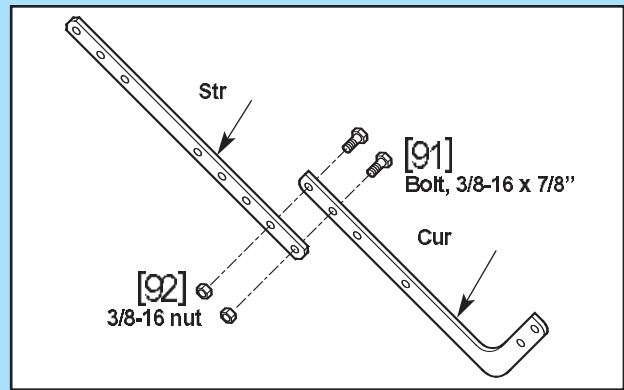

Fig. 2-16
10. TERNATE xactly as shown (Fig. 2-16).
- Overlap arms by two (2) holes.
- Install two (2) 3/8" x 7/8" hex bolts, and hex flange nuts.